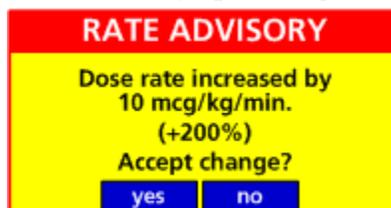

Figure 16. Single Step Titration Rate Alert.
- A rate advisory (See Figure 16.) will alert the clinician if the dose or mL/hr rate has been programmed to exceed the facility's pre-configured limit.